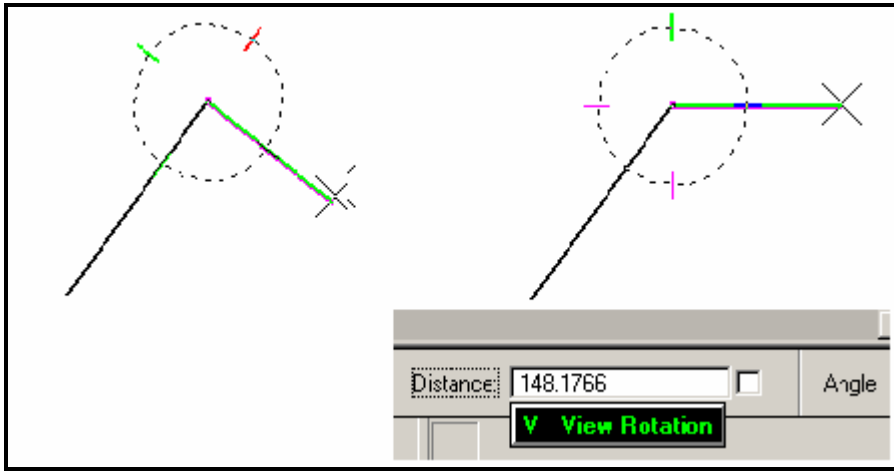

Figure 22-19: Rotate AccuDraw to the View
- ♪ You have to make sure that it is always rotated back to horizontal between every segment: type **V** with active **AccuDraw** to rotate the **Compass** to the view (Figure 22-19).